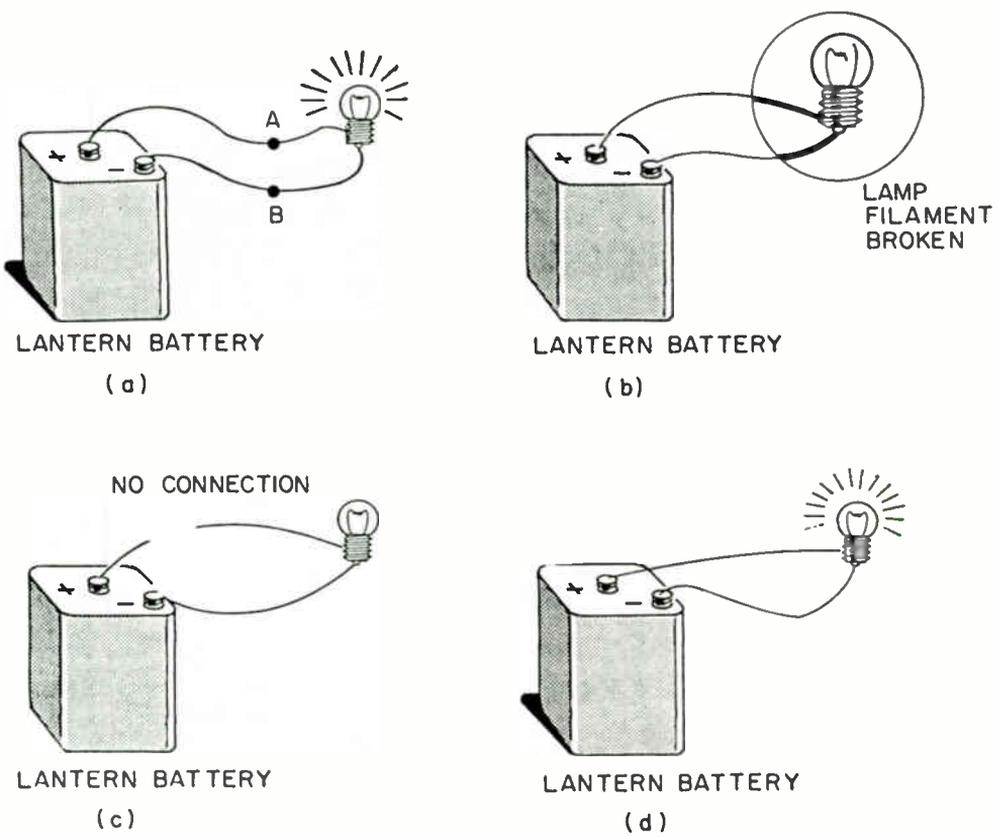

Fig. 13 Circuits for WHYL questions 4 through 7.
4. In Fig. 13(a), if a wire were connected between points *A* and *B*, you would say the circuit was (shorted)-(open).
5. In Fig. 13(b), the circuit is (open) (shorted) and the lamp (will) (will not) light.
6. Figure 13 (c) (is) (isn't) a short circuit.
7. Which one of the following statements is true of Fig. 13(d): The circuit is shorted, and the lamp will not light; The circuit is open, and the lamp will not light; The circuit is open and the lamp will light; or The circuit is okay, and the lamp will light?